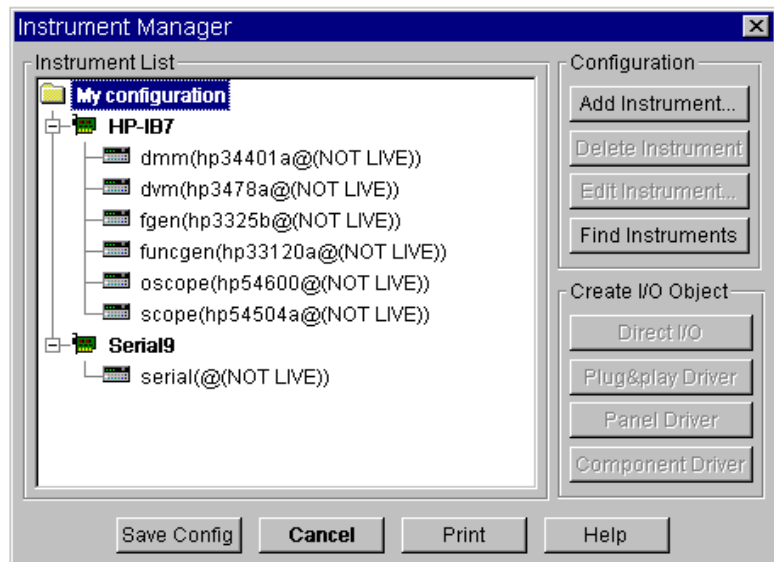

Figure 3-1. The Instrument Manager
1. The Instrument List displays the instruments that are currently configured. This configuration is defined by the I/O configuration file (refer to “The I/O Configuration File” on page 133 for further information). The default configuration, contained in the default I/O configuration file, is displayed in Figure 3-1.